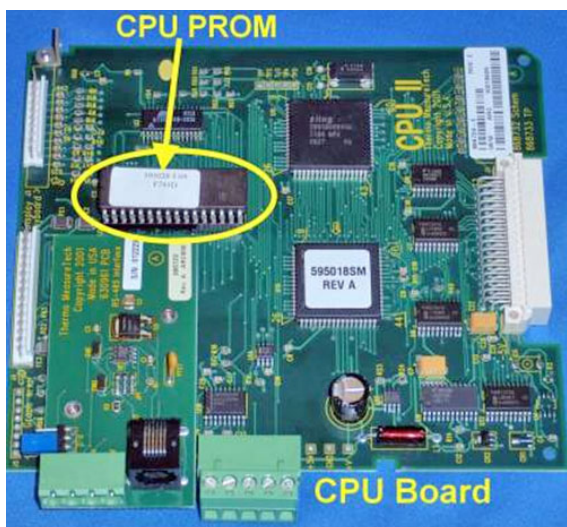

Figure 7. Location of CPU PROM
- Locate the CPU PROM on the CPU board (Figure 7).